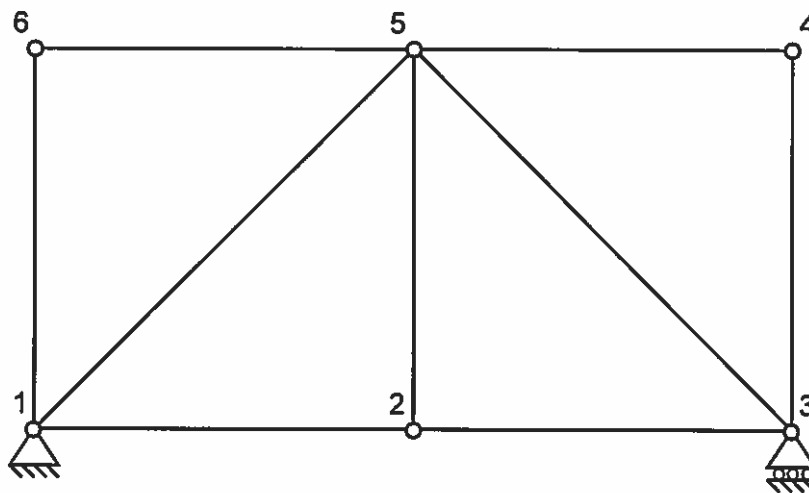

Figure 2
2. Figure 2 shows a pin-jointed framework with members having Young's modulus  $E$ , cross-sectional area  $A$ , and coefficient of thermal expansion  $\alpha$ . All the horizontal members have initial length  $L$ . All diagonal members are oriented at  $45^\circ$  to the horizontal. Boundary conditions are applied to nodes 1 and 3 as shown.